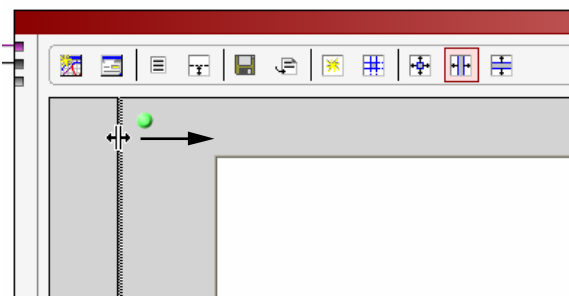

Figure 27. Resizing Analysis Results
- In **Input Formatter** (see Figure 25 through Figure 27), click the **Settings...** button. Then change the **Number Format** to two's complement. Next, change both the **Resolution** and **Alignment** to 14. Click **OK**.
Next, resize the **Analysis Results** panel on the left side of the **Graph** component by positioning the mouse cursor over the vertical divider bar and drag to a new location (see Figure 27).